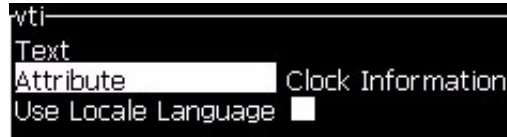

Figure 5-25: Clock Information Option
- 3 Press the *Enter* key to open the configuration dialog box for text user fields (see Figure 5-25).